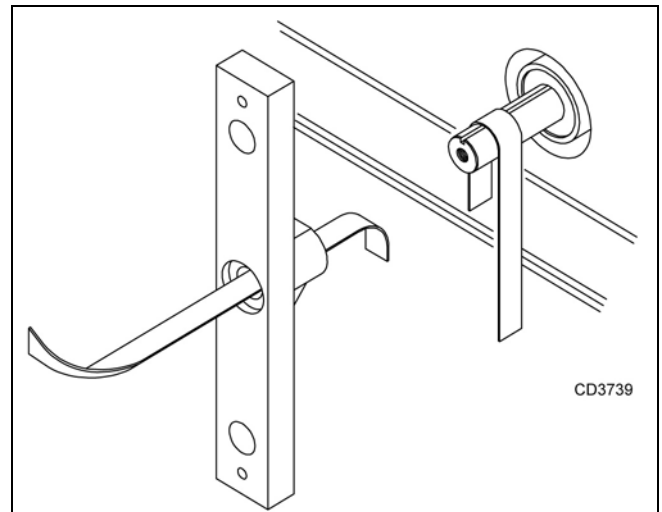

Figure 19. Typical Crossbar and Gearbox Shaft
1. Using emery cloth (220 or finer), remove surface rust, and foreign material from hub, splined gearbox vertical shaft, and crossbar. See Figure 19.